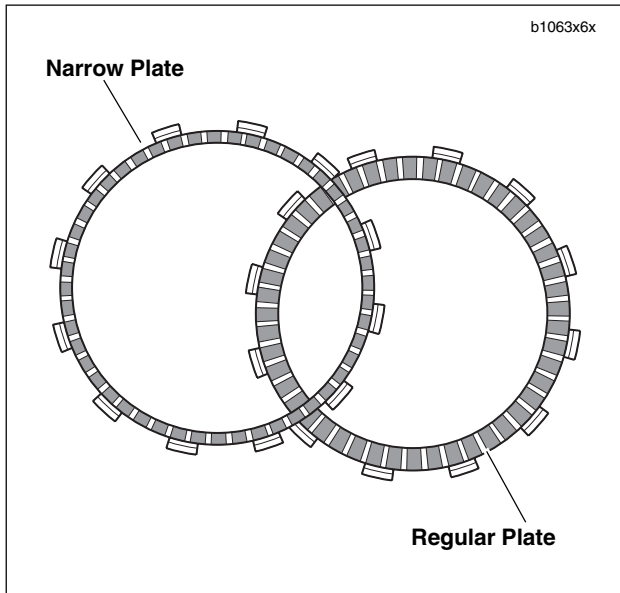

Figure 6-18. Friction Plates
2. See Figure 6-18. Install narrow friction plate on the clutch hub engaging tabs on plate with slots in clutch shell.